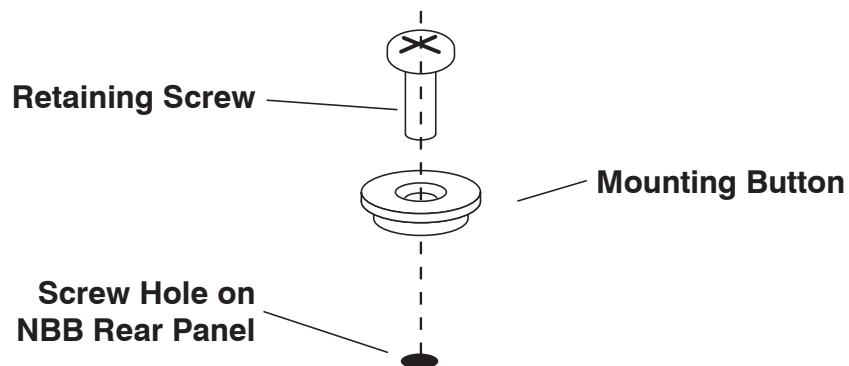

Figure C.2: Attaching Mounting Buttons to the NBB Unit
2. Install two Mounting Buttons in the holes selected in Step 1 above. Refer to Figure C.2 below for further details regarding assembling the Mounting Buttons and attaching them to the NBB unit.